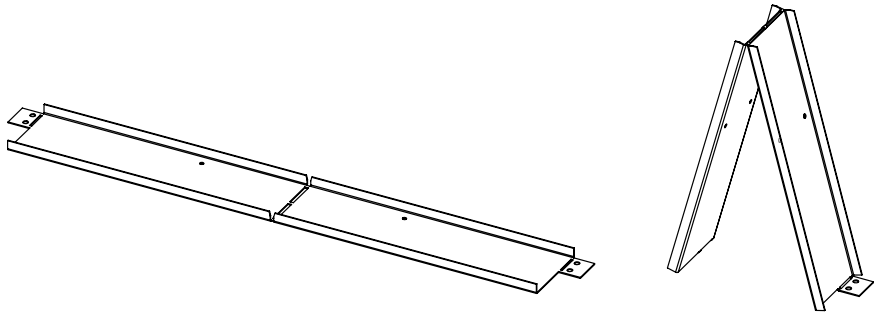

Figure 31: Top Standoff Shape
1. Bend top standoff by hand to form general shape (see Figure 31).